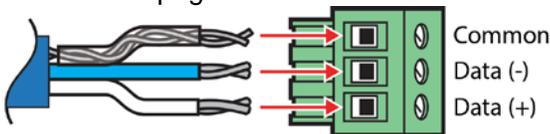
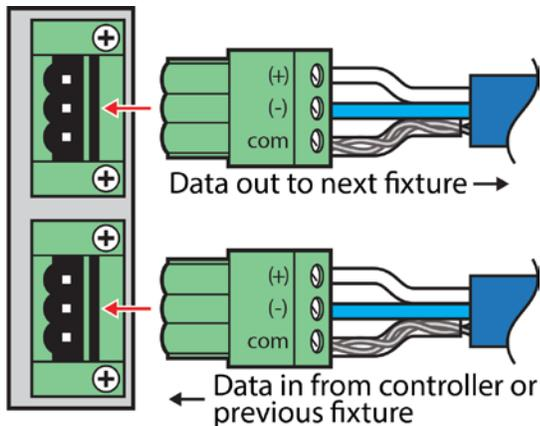

Figure 2. DMX cable pinout for DMX cable.
Figure 3. Location of data in and out jacks on fixture.
4. Install included 3-position connectors on DMX cable as shown in Figure 2 and plug into fixtures as shown in Figure 3. Insulate bare shield wires to prevent shorting to ground.